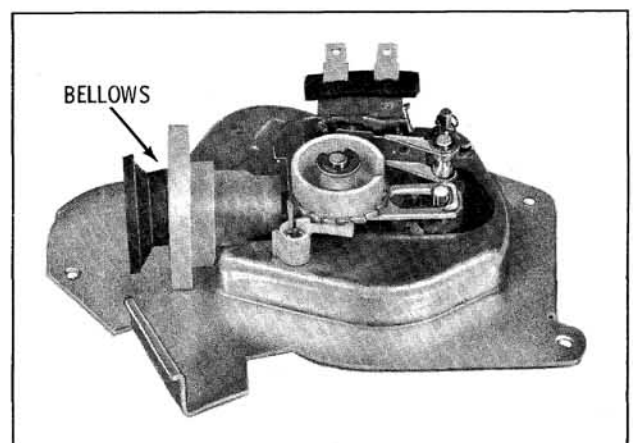

Fig. 13-211 Bellows Extended
9. Rotate ratchet with thumb until bellows extends out of housing. (Fig. 13-211)